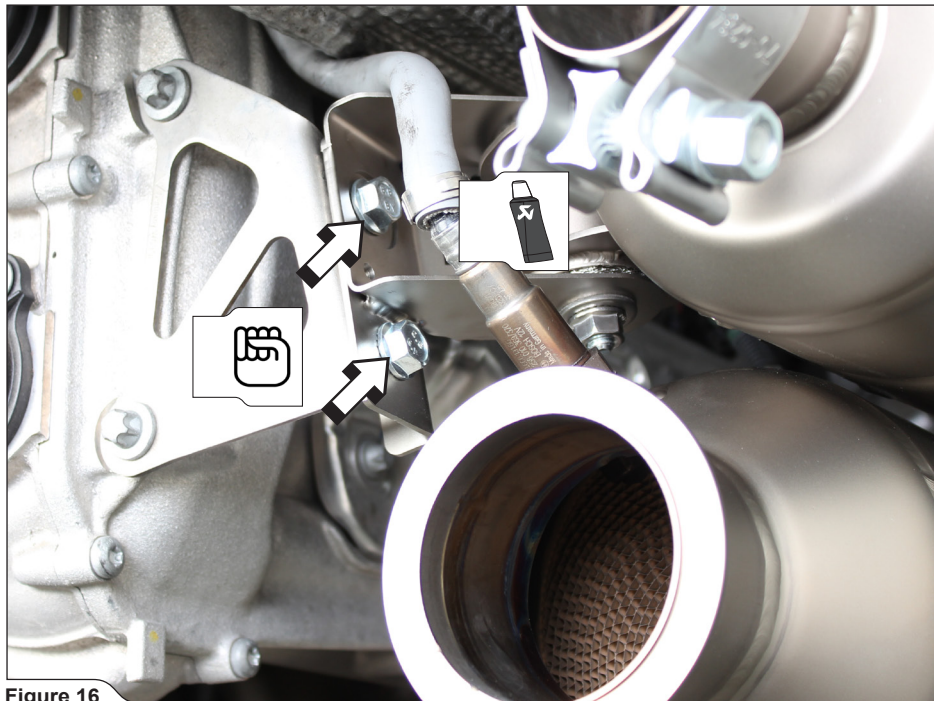

Figure 16
4. Correctly position and install right side muffler using bolts and nuts from Akrapovič installation kit, as shown. Hand tighten bracket bolts only (Figure 16).